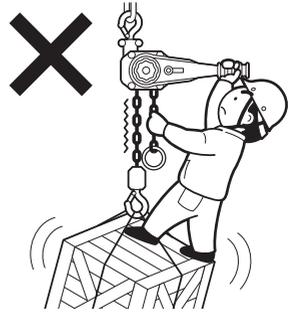
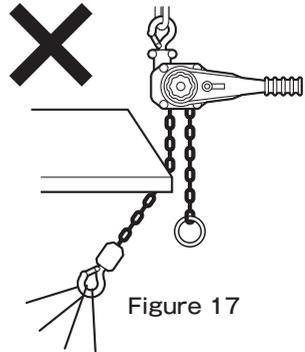
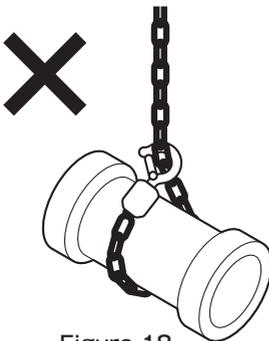

Figure 16
Figure 17
Figure 18
- (25) Do not allow anyone to ride on suspended loads. Never use the lever hoist for human transport purposes. (Figure 16)
- (26) Never reverse a suspended load without sufficient expertise in doing so.
- (27) Do not suspend excessive loads.
- (28) When maintaining the load in a suspended condition for a short period of time, be sure to leave the switch pawls in the lifting position.
- (29) Never use the hoist or the hook to work as a fulcrum.
- (30) Do not use damaged or deformed top/bottom hooks.
- (31) Never use this equipment if the load chain is deformed or damaged.
- (32) Do not operate the equipment with the load chain lodged against a steel plate or other corners. (Figure 17)
- (33) Do not operate the load chain by any means other than human power (do not use any tools or objects on the controls).
- (34) Do not apply abrupt force to the load chain during idle operation.
- (35) Suspend slings properly onto the hook.
- (36) During lifting, temporarily pause winding once either the load chain or sling comes under tension.
- (37) Keep the lever hoist unit and load chain clean and free of sand and other debris.
- (38) Make sure the lifting height is sufficient for the intended work.
- (39) Make sure the load chain is sufficiently lubricated.
- (40) Do not modify this equipment in any way.
- (41) Do not use with the load chain wrapped around the load. (Figure 18)